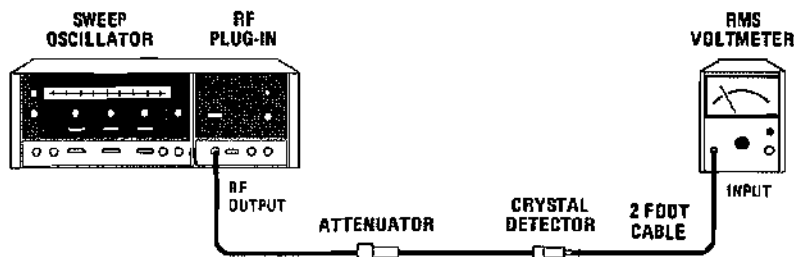

Figure 4-12. Residual AM Test Setup
- d. Connect equipment as shown in Figure 4-12 using 20 dB attenuator. Note reading on RMS voltmeter.